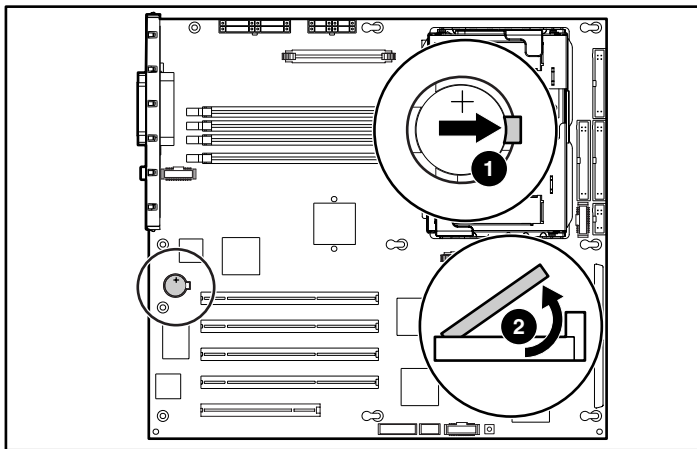

Figure 3-42: Removing the battery from the system board
2. Locate the battery on the system board. See Figure 3-42 for the battery location.